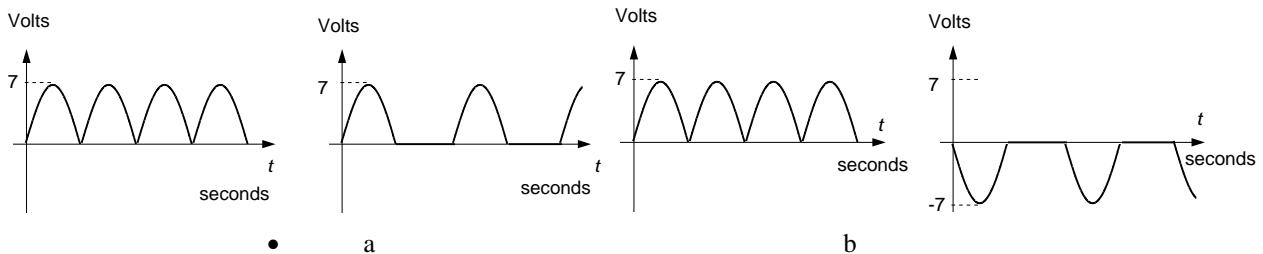

Figure 5: Voltage Waveforms
- What is the relationship between the mean values of the two sets of signals depicted in Figure 5 (a) and (b)?